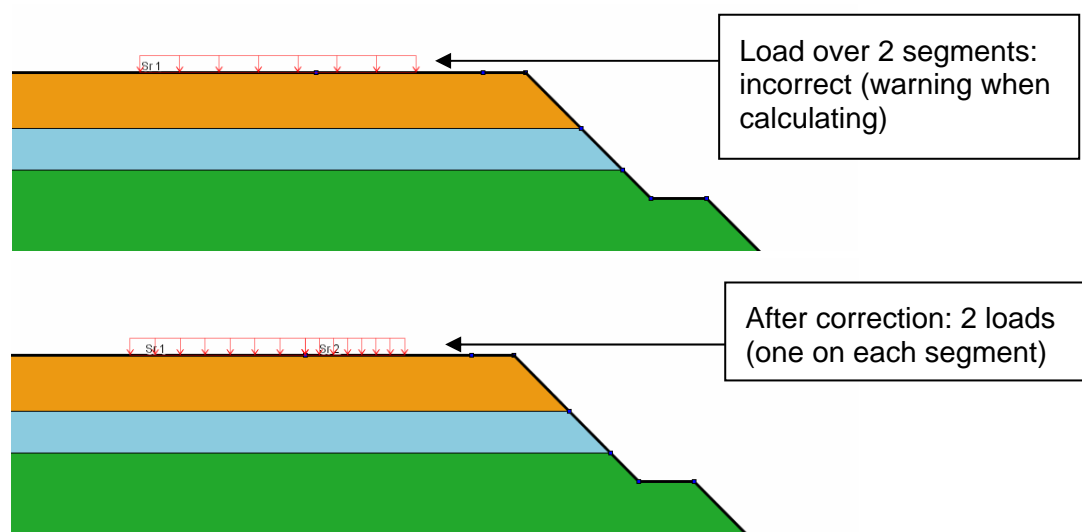

Figure 33: case of loads covering several segments
- A distributed load should not be defined over several segments (Figure 33). Each distributed load must be included in one single segment. A load should be divided into several loads (one per segment) if necessary.